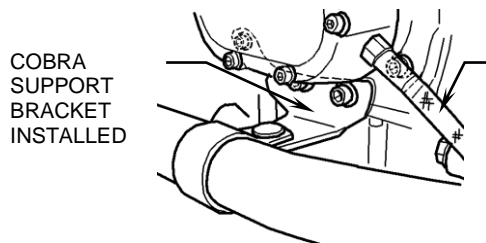

FIGURE 1
5. Place your motorcycle on the sidestand. Remove the front headpipe support bracket by removing two, 5/16" Allen bolts, see Figure 1. Locate the supplied Cobra bracket, similar in shape to the stock one, and mount it in place of the removed bracket using the stock bolts, see Figure 1.